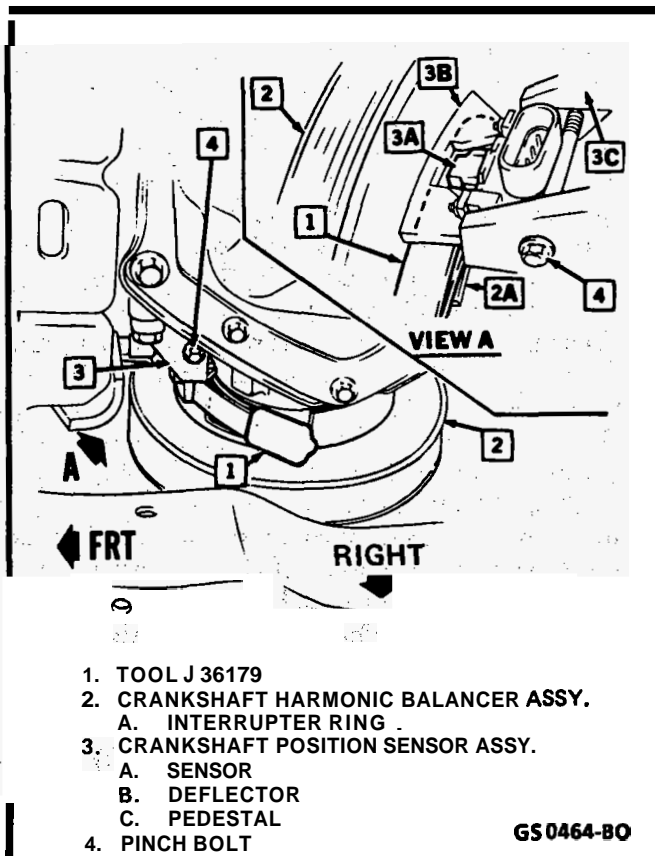

Figure C4-13 - Crankshaft Sensor Adjustment
1. Loosen the pinch bolt on sensor pedestal and insert adjustment tool (J-36179 or equivalent) into the gap between sensor and interrupter on each side of interrupter ring. (Figure C4-13)